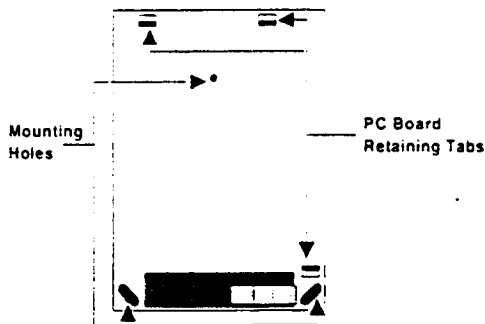

Figure 2. Mounting the HOM base
- 4) Mount the HOM base using the three mounting holes provided (see Figure 2). Be sure to handle the board by its edges to avoid static problems.